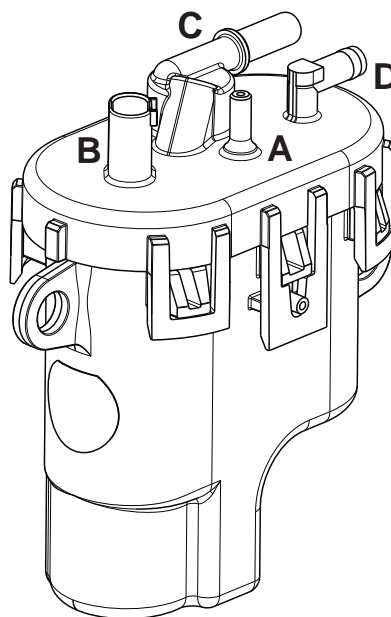

Figure 5-18 Fuel Pump Module.
4. Squeeze clip and remove EVAP tube (A) to throttle body adapter. See Figure 5-18.
6. Pull out grey secondary lock and press to disconnect fuel pump module connector (B).
7. Squeeze two tabs on quick disconnect fitting to release fuel rail from fuel outlet port (C).